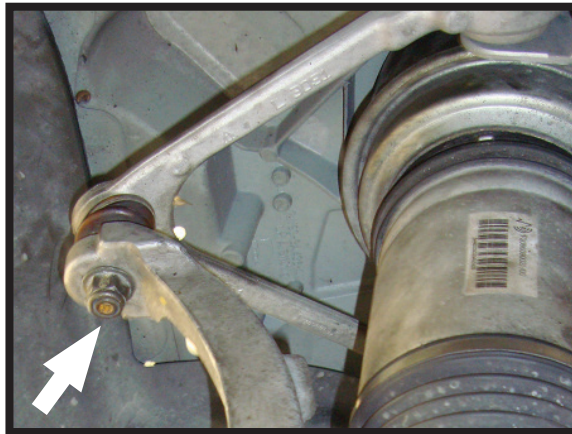

FIGURE 2
4. REMOVE THE UPPER A-ARM BALL JOINT NUT AND SEPARATE THE UPPER A-ARM BALL JOINT. (FIGURE 2)